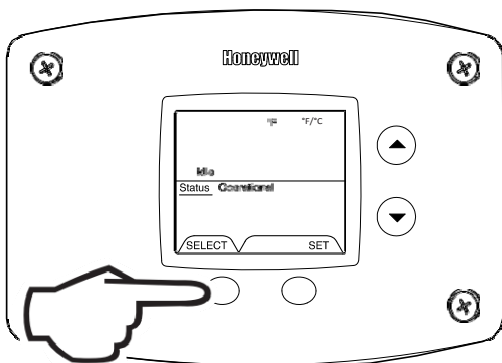

Fig. 54
- While in 'Service Mode', press 'Select' button until '°F/°C' is shown in the upper right portion of the water heater display (Fig. 54).